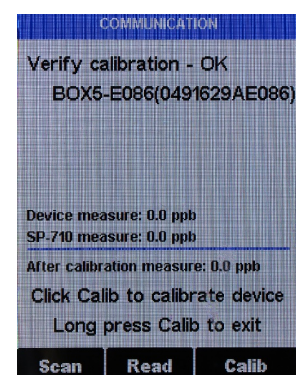

Figure 13.
14. If the calibration is successful, a "Verify calibration - OK" message will appear on the top of the display (Figure 13).